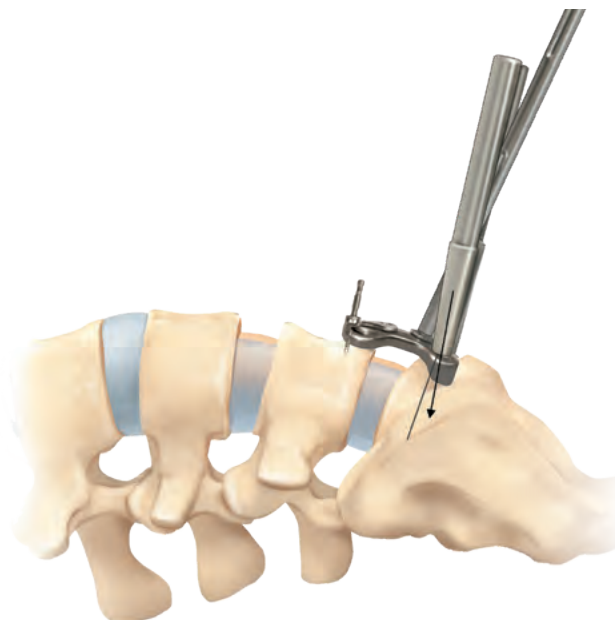

Figure 14:
- The angle of this tube places screws in a 3° trajectory away from the vertebral endplates (Figure 14).